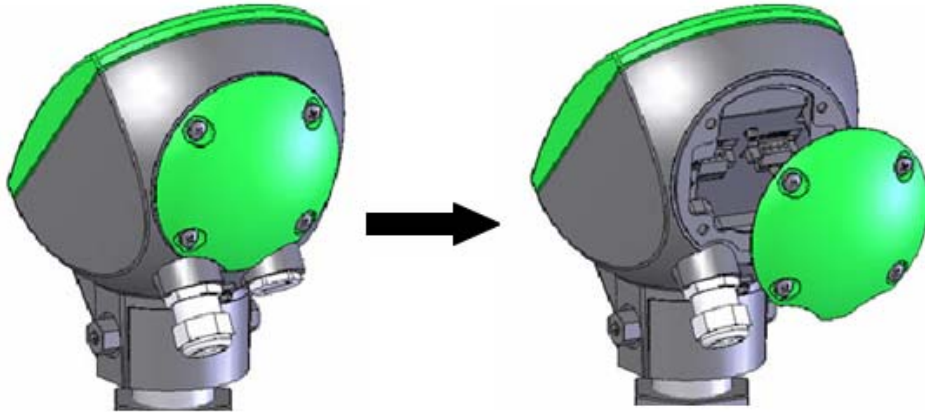

Figure 12 Removing the Rear Panel
1. Loosen the four screws of the scanner rear panel on the back of the scanner head and remove the rear panel (see *Figure 12* on page 6). The screws are captive and will not fall off.